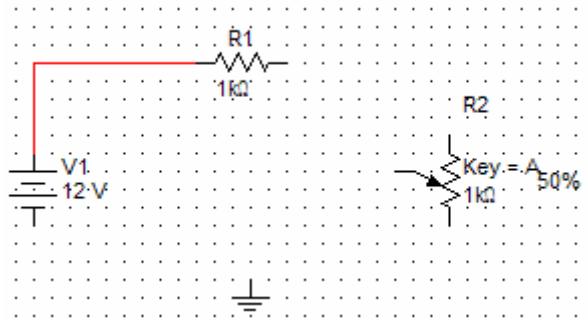

Figure 9. A wire connects the 12 V source to the 1 kΩ resistor.
9. To wire the circuit, simply Left-click at the starting node, drag the wire to the ending node and Left-click again. Figure 9 shows the results of wiring the 12 V source to the 1 k Ω resistor.